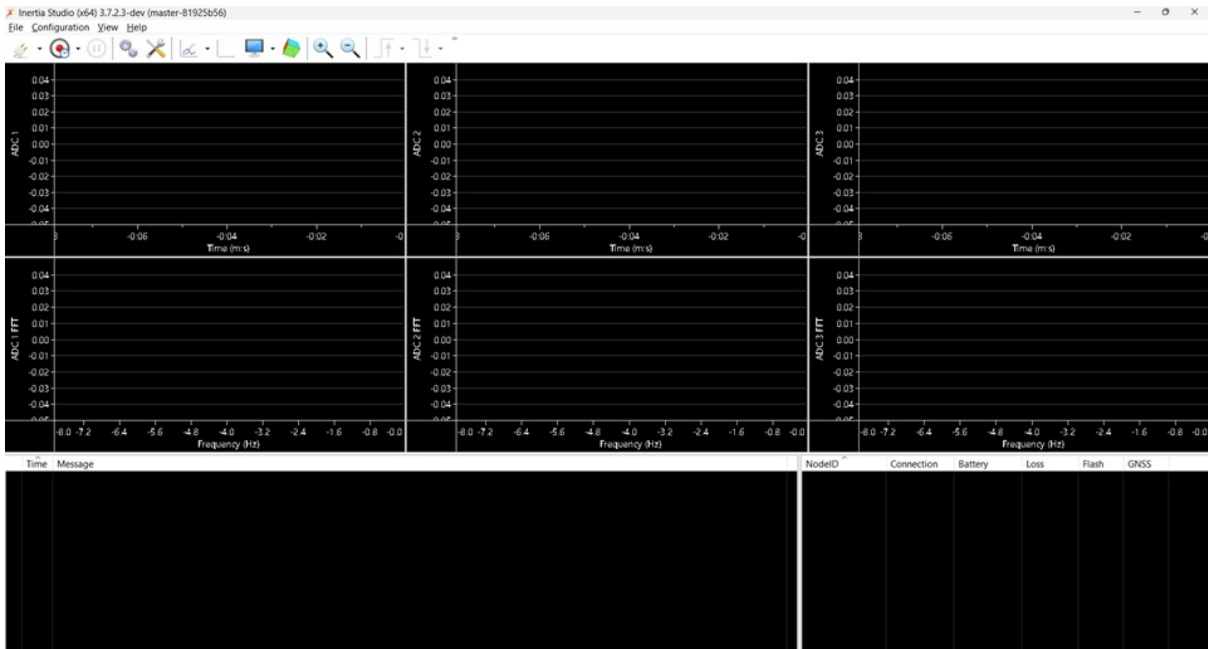

Figure 63: Inertia Studio layout for *nexoDAQ*
2. Start Inertia Studio. Using the layout wizard, select the predefined layout **Analog Inputs + FFTs (3x)** from the list (Section 3.11.1), see Figure 63.